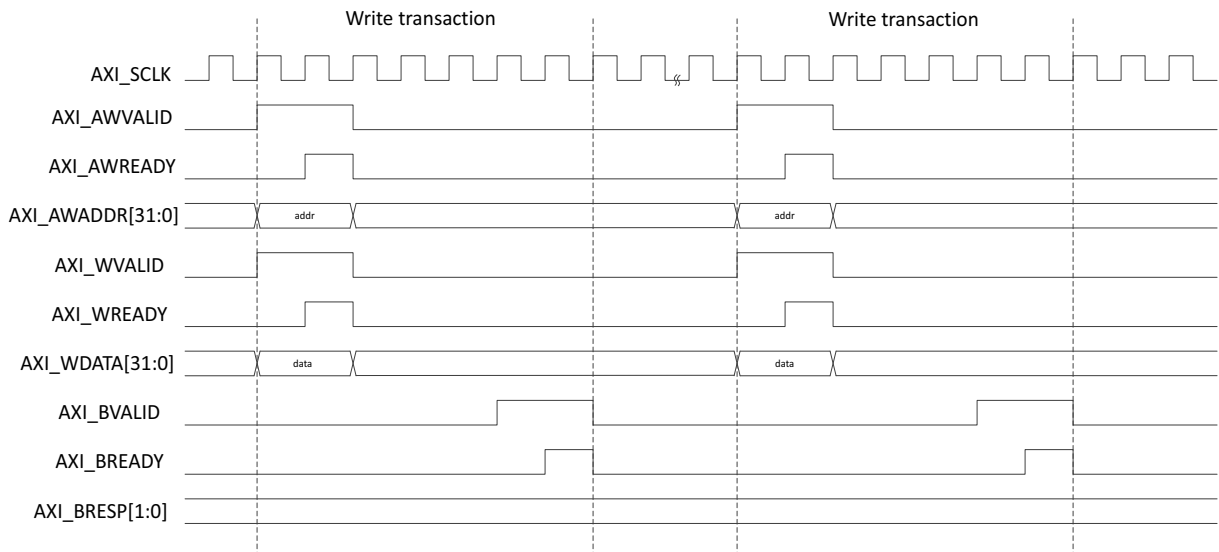
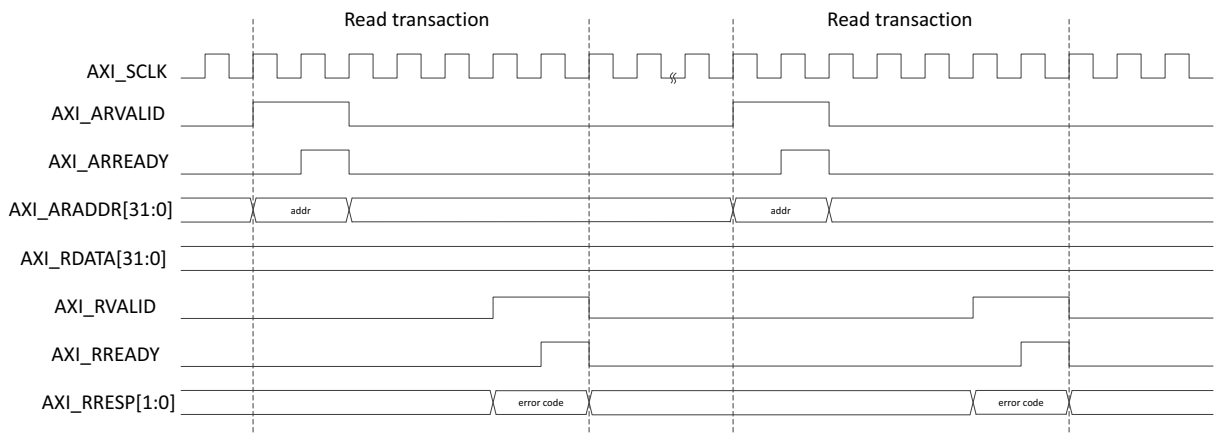

Figure 5-13: AXI4-Lite User Side Write Transaction
Figure 5-16: AXI4-Lite User Side Read Transaction with Illegal Read Address
Figure 5-13 through Figure 5-16 show timing diagram waveforms for the AXI4-Lite interface
- Valid Write transactions (Figure 5-13)
- Invalid Read transactions (Figure 5-16)